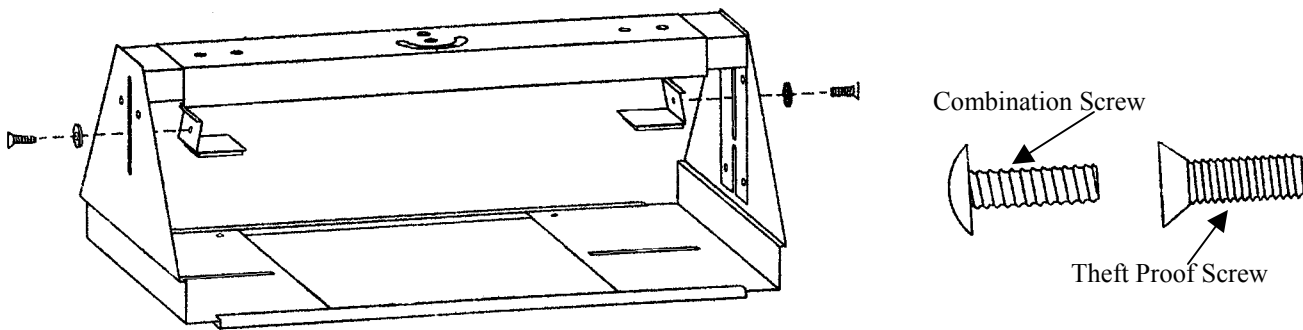

Figure 6. Attach End Clamps
6. Attach, **loosely**, clamps to each end plate using either the #10-32 X 5/8” combination screw or the #10-32 X 1/2” theft proof screw (see Figure 6). NOTE: Use the security key provided if installing the theft proof screw.